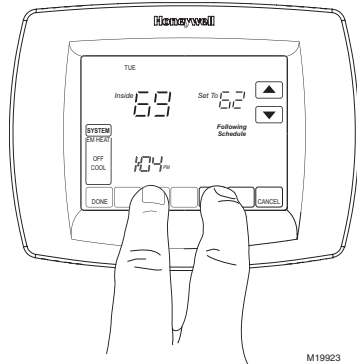

Fig. 22. Entering Installer Setup.
- Five blank touch keys show on the bottom of the screen between the Done and Cancel keys. Press and hold the two blank keys on either side of the center blank key for approximately five seconds until screen changes. See Fig. 22.
The Installer Test is part of the Installer Setup options. Entering the Installer Setup screen and pressing the down arrow key to bring up the test selection(s) accesses it quickly. See Fig. 22.